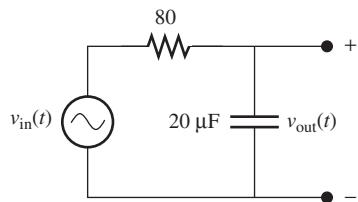

FIGURE P7.48 Circuit for Problem 7.48.
- 7.48** (A) Use PSpice for Bode plot analysis of the circuit shown in Figure P7.48, given the voltage source $v(t) = 15 + 5 \sin(1000\pi t) + 8 \cos(4000\pi t + 30^\circ)$.